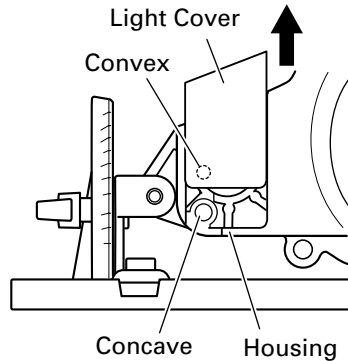

Fig. 22 (Side View)
- (1) Remove the convex part of the light cover from the concave part of the housing, and then pull out the light cover in the arrow-marked direction as shown in Fig. 22.